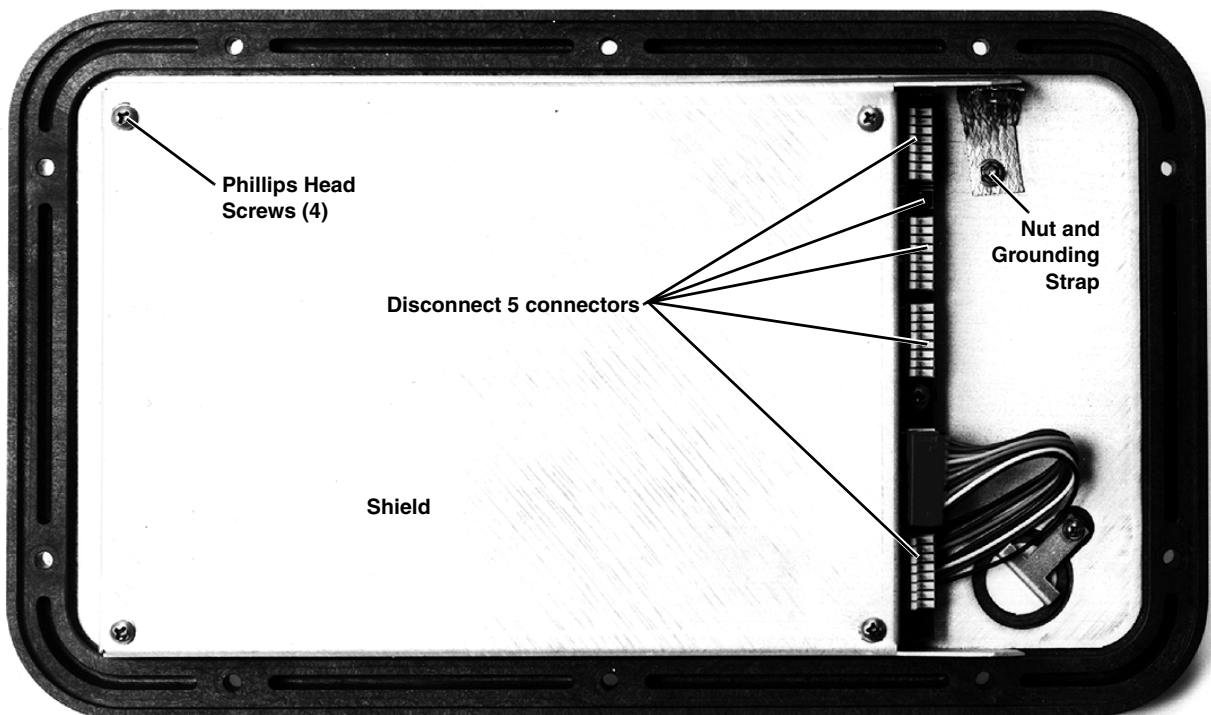
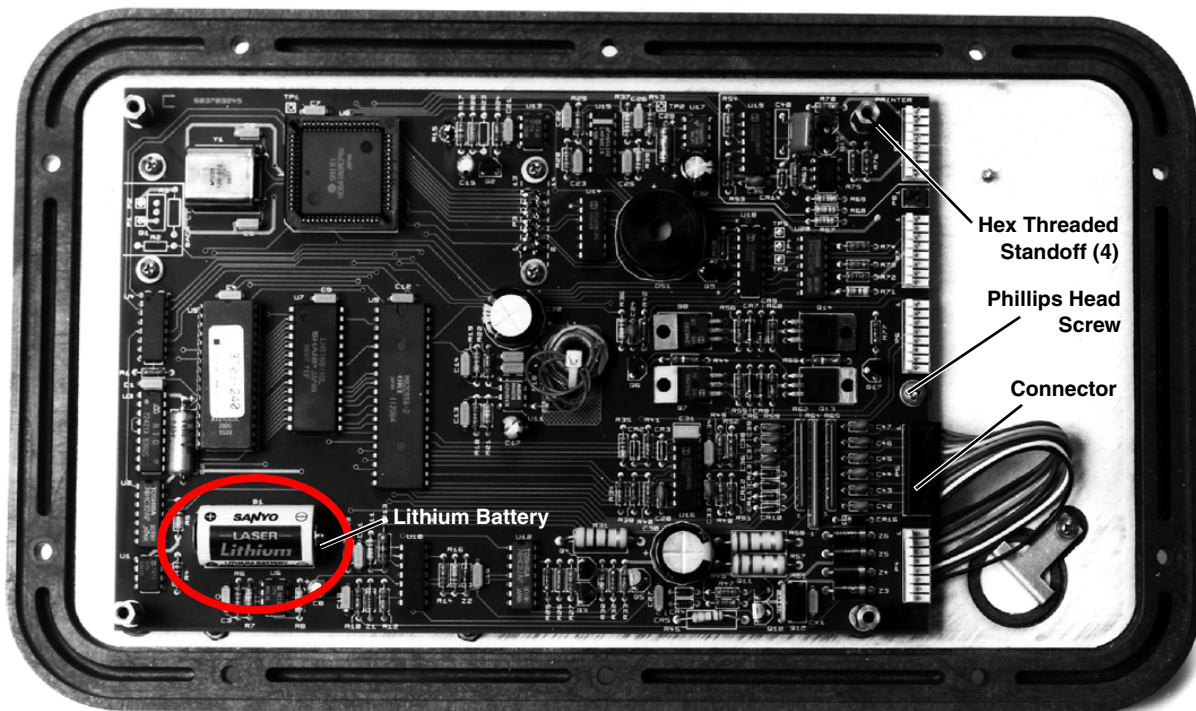

Figure 6-2 Underside of the Control Box Cover
Figure 6-3 Main Circuit Board
3. Lift the cover and frame off the control box, as shown in Figure 6-2, and turn it over.
4. You can disconnect the control-box cover assembly from the control-box lower section by disconnecting the five connectors indicated in Figure 6-2, and the grounding strap.
5. The main circuit board assembly of the 3700 is protected by an aluminum shield. To remove this shield, unscrew the four screws and the nut shown in Figure 6-2, and lift off the shield. This reveals the main circuit board, shown in Figure 6-3.
6. To remove the circuit-board assembly from the control box cover, unscrew the four hex-threaded stand-offs and the Phillips head screw, shown in Figure 6-2. You can now pull the circuit board away from the control box cover.
7. To disconnect the circuit board assembly from the cover, disconnect the connector shown in Figure 6-3.